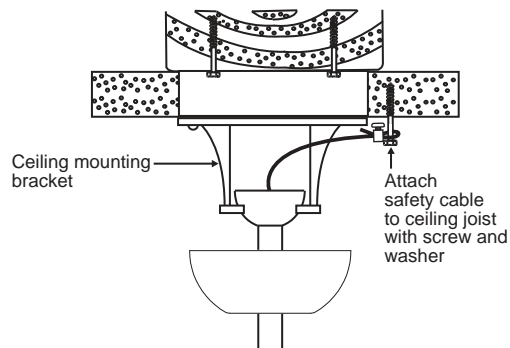

Fig. 10
Step 1. Attach the provided wood screw and washers to the ceiling joist next to the mounting bracket but do not tighten. (Fig. 10)